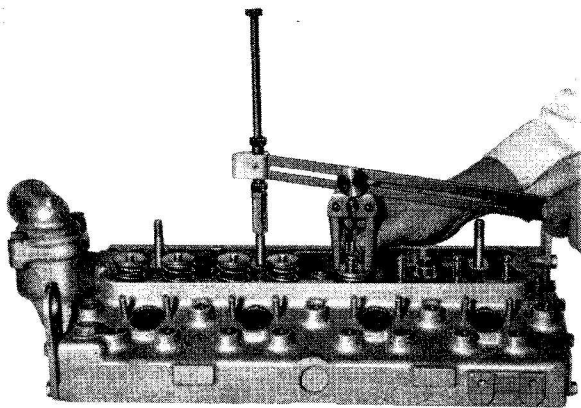

Fig. 5
1. Compress spring caps and springs with a suitable valve spring compressor (Fig. 5) and remove the two half conical collets from each valve.